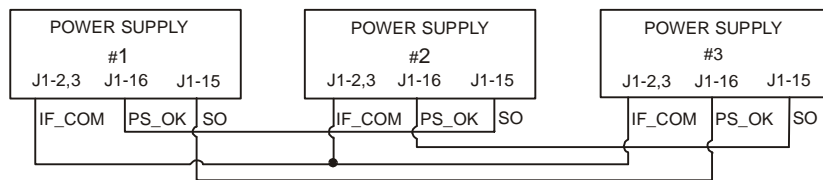

Fig.5-6: Daisy-chain connection
### **3. Daisy Chain Connection: (See Fig. 5-6)**
6. Connect J1-2 (or J1-3) common to all supplies (See Fig. 5.6).
Fig. 5-6 shows connection of three units, however, the same connection method applies to systems with a larger number of units.